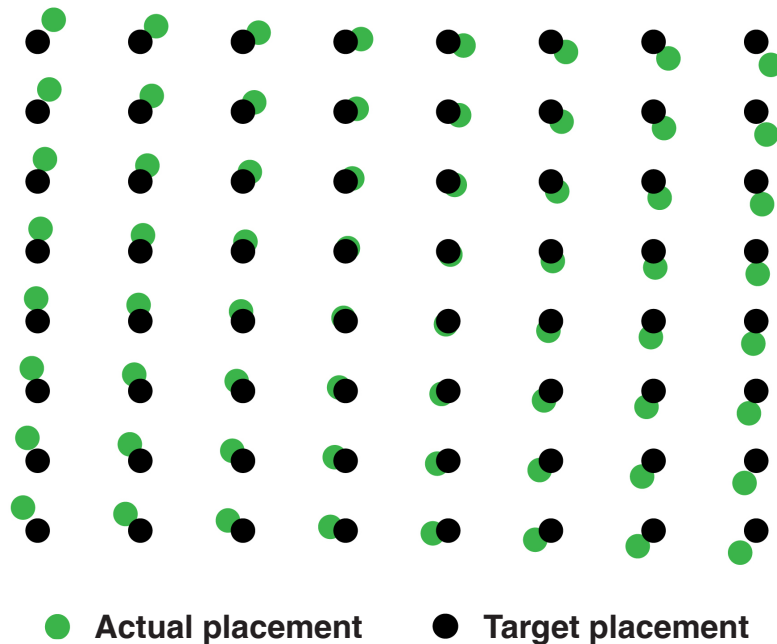

Figure 7: Slight rotational errors lead to significant bond placement errors on large dies.
Advanced Packaging (AP) is a challenging motion control application where components must be very accurately placed in X, Y and Rz. The effect on placement accuracy of a small rotational error is shown in Figure 7.